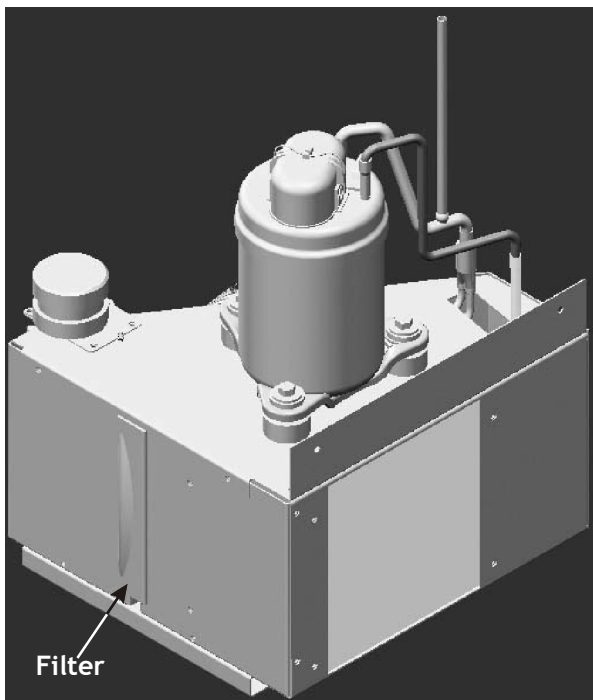

FIGURE 1 - DIGIAIR™ KIT
2. Grasp the filter by its molded handle, located on the side of the kit (See Figures 1 & 2).